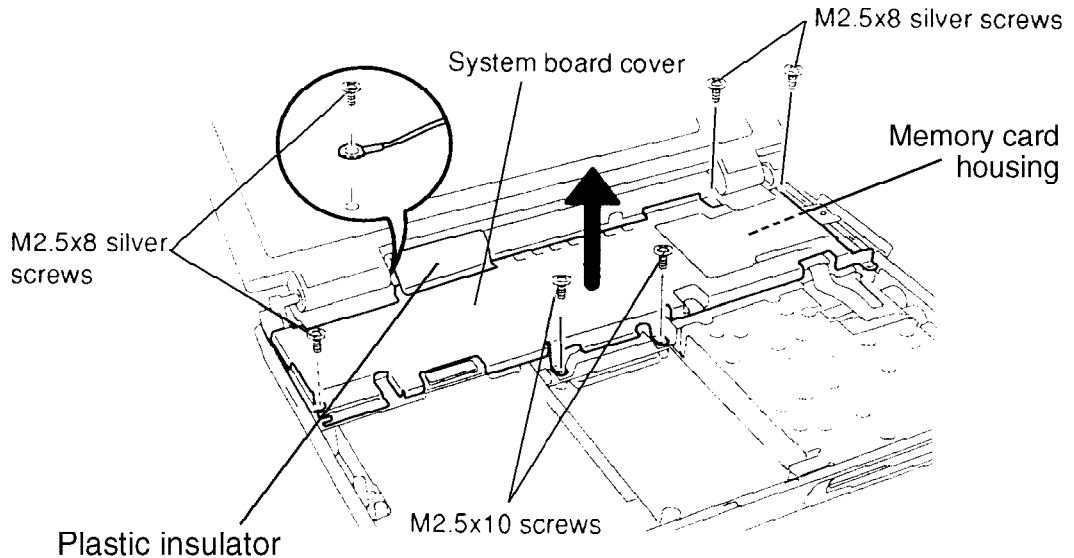

Figure 4-16 Removing the System Board Cover
4. Remove the four **M2.5x8 silver screws** and two **M2.5x10 screws** on the **system board cover** (Figure 4-16). Note that the M2.5x8 screw under the hinge secures the ground wire.
6. Set the **system board cover** in place and secure the display **ground wire** with an **M2.5x8** silver screw (Figure 4-16).
7. Secure the **system board cover** with **three M2.5x8 silver screws** and **two M2.5x10 screws** (Figure 4-16).
8. Place the clear **plastic insulator** over the display cables and press it so that it adheres to the **system board cover** (Figure 4-16).